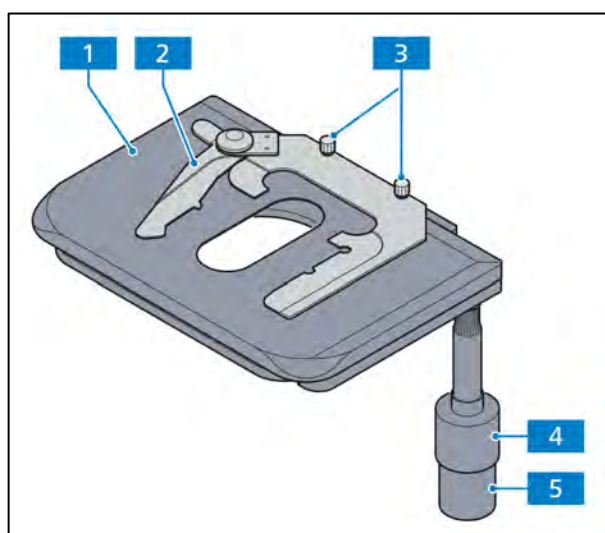

Fig. 2-13 Mechanical stage 75x50 R with specimen holder
- Mechanical stage (Fig. 2-13/1) for holding and positioning specimens with a specimen holder.
- Specimen holder (Fig. 2-13/2) for single-handed operation or specimen holder for counting chambers (replaceable after loosening the two knurled screws, Fig. 2-13/3).
- Coaxial knurled knobs for X (Fig. 2-13/5) and Y adjustment (Fig. 2-13/4).
- Coaxial knurled knobs on right (R) or left (L) side depending on the model.